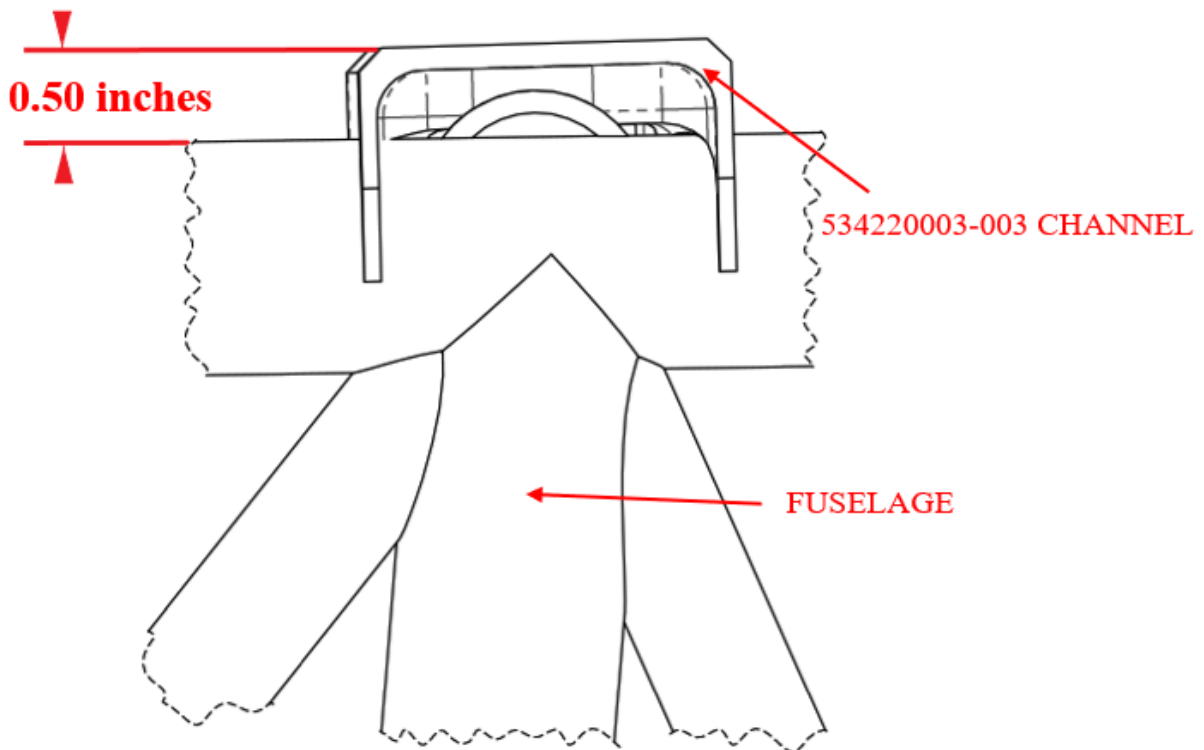

Figure 5: 534220003-003 Channel on Airframe
- b. Verify the 0.5" dimension (0.38" for T660) from channel's upper surface to top of longeron. Refer to Figure 5. The weld fixture's lower surface should lie flush on both the fore and aft attach channels.